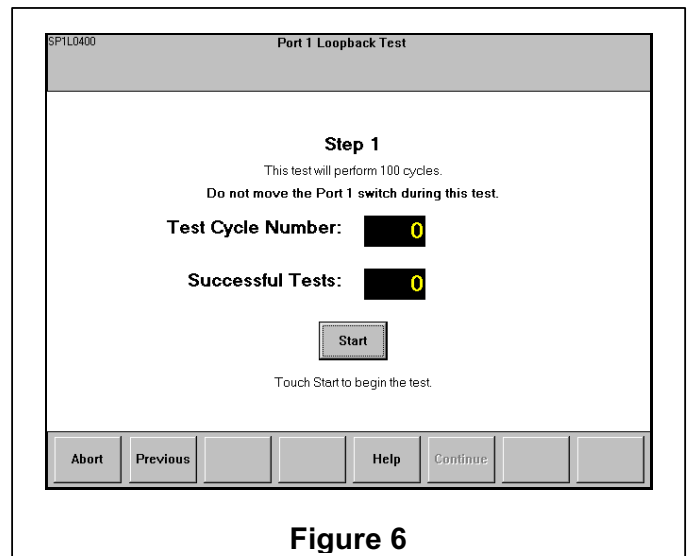

Figure 6
**NOTE:** Once the "Continue" option has been selected, the screen in Figure 6 will appear. This screen shows the result window before the beginning of Step 1 of the test. All the meters are at 0.